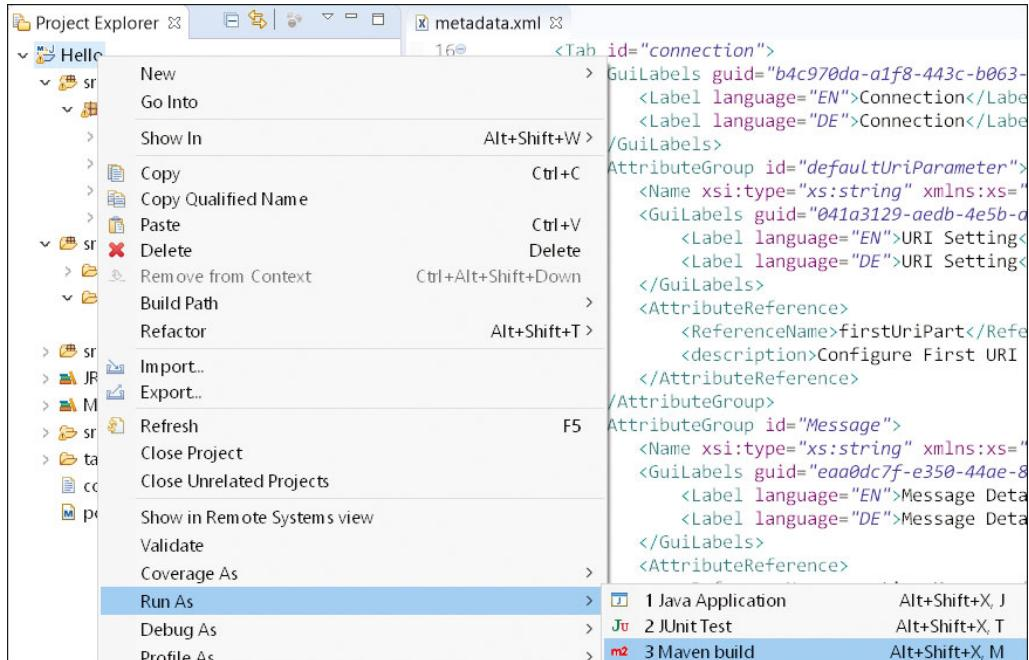

Figure 6.101 Build Adapter Project
1. Right-click the adapter project **Hello**, and choose **Run As • 3 Maven build** in the context menu (Figure 6.101).